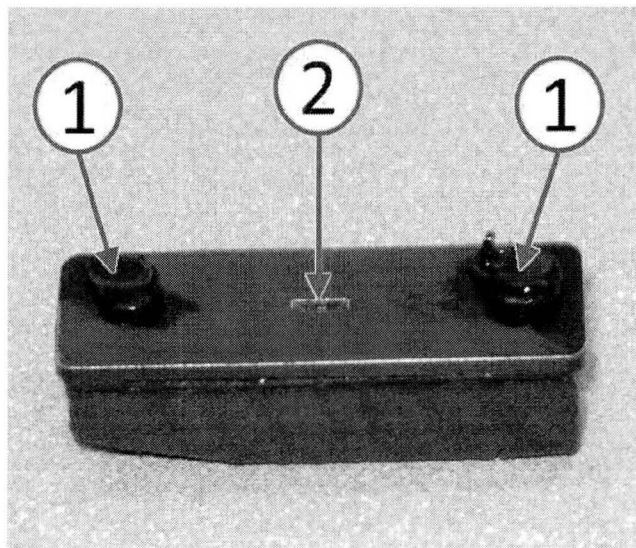

Fig. 4 Apply Adhesive
6. Apply RTV adhesive to the two specified areas (1) identified in (Fig. 4).